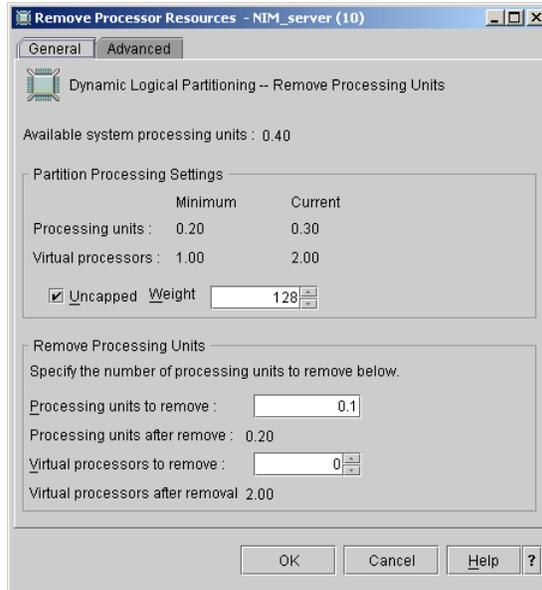

Figure 5-17 Dynamic LPAR operation to remove 0.1 processing unit
2. Figure 5-17 shows the current processing units and removing the 0.1 processing unit.